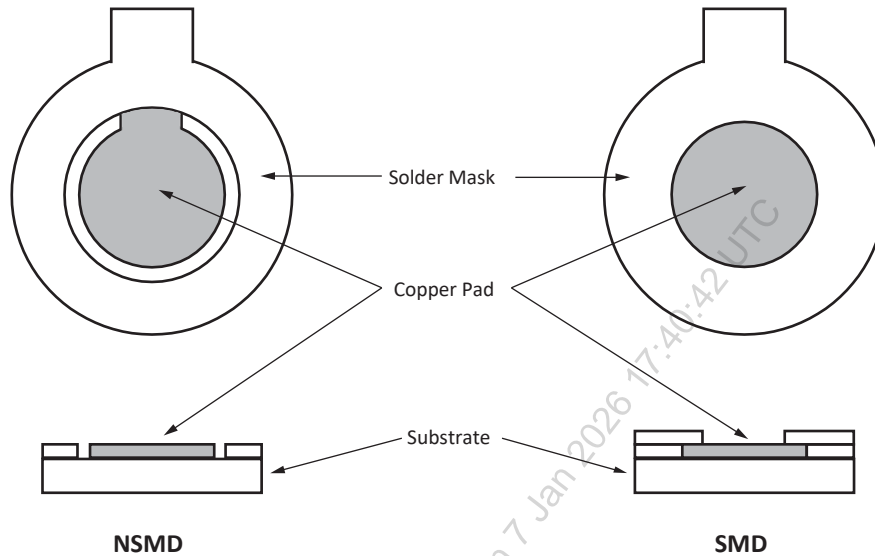

Figure 2. NSMD versus SMD land pad
**Types of land patterns:** Two types are used for surface mount components (refer to Figure 2):